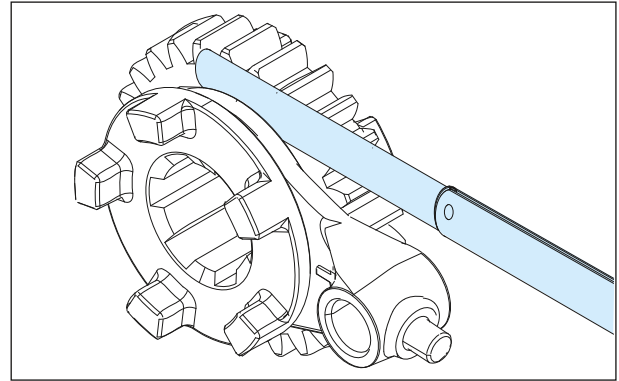

Fig. 3.106
- Using a feeler gauge, check the clearance between fork gear shift and its seating groove on the gear. (Fig. 3.106) If the clearance exceeds the service limit, determine whether the gear or the fork gear shift should be replaced with a new one.